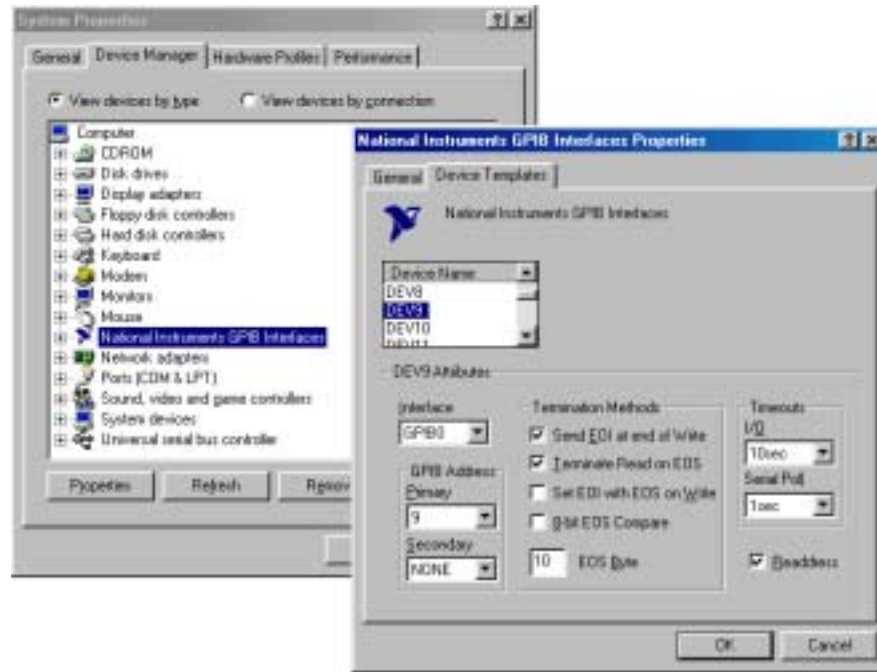

Figure 2-4 System Properties & GPIB Interfaces Properties
6. Click the **Device Templates** tab. See Figure 2-4 System Properties & GPIB Interfaces Properties.